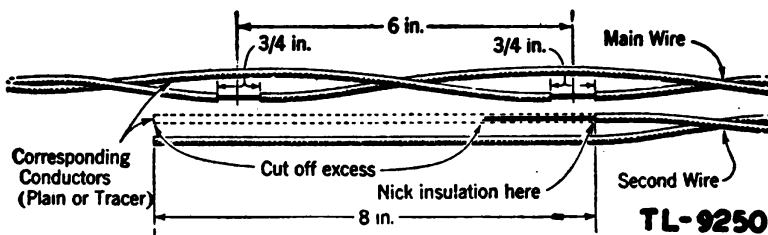

Figure 55. Twisted-pair drop wire prepared for bridging.
(5) Bridge the other conductor of the second drop wire to the main drop wire in a similar manner.
(6) Wrap each Type-1A bridging connector with two, reversed, half-lapped layers of  $\frac{3}{4}$ -inch rubber tape. Start wrapping the tape between the wires, and extend it for 1 inch on each side of the connector.
(7) Cover the entire connection with two, reversed, half-lapped layers of  $\frac{3}{4}$ -inch black friction tape.
(8) If a twisted-pair wire is used, prepare the wire as shown in figure 55. Proceed as directed in (2) to (7) above.